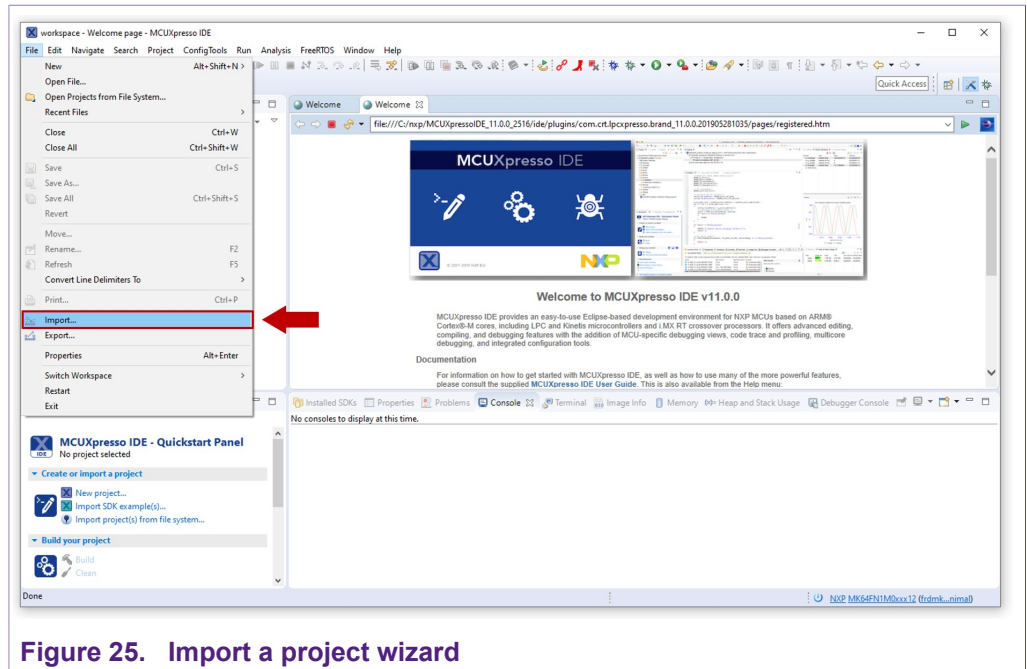

Figure 25. Import a project wizard
- Go to *File* → *Import* using the top bar menu as shown in Figure 25. **Note:** In this case, do not use the MCUXpresso Quickstart Panel to import project.
1. Go to *File* → *Import* using the top bar menu as shown in Figure 25. **Note:** In this case, do not use the MCUXpresso Quickstart Panel to import project.